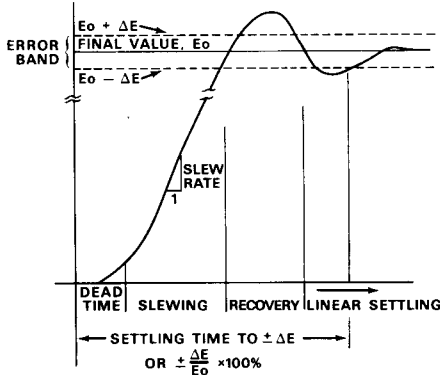

Figure 1. Settling Time
**MEASURING SETTLING TIME.** Settling time is defined as that period required for an amplifier output to swing from 0 volts to full scale, usually 10 volts, and to settle to within a specified percentage of the final output voltage. For high accuracy systems, the accuracy requirement is normally specified as either 0.1% (10-bit accuracy) or 0.01% (12-bit accuracy) of the 10 volt output level. The settling time period is comprised of an initial propagation delay, an additional time for the amplifier to slew to the vicinity of 10 volts, and a final time period to recover from internal saturation and other effects, and settle within the specified error band. Because settling time depends on both linear and nonlinear factors, there is no simple approach to predicting its final value to different levels of accuracy. In particular, extremely high slew rates do not assure a rapid settling time, since this is only one of many factors affecting settling time. In most high speed amplifiers, after the amplifier has slewed to the vicinity of the final output voltage, it must recover from internal saturation and then allow any overshoot and ringing to damp out. These definitions are illustrated in Figure 1.